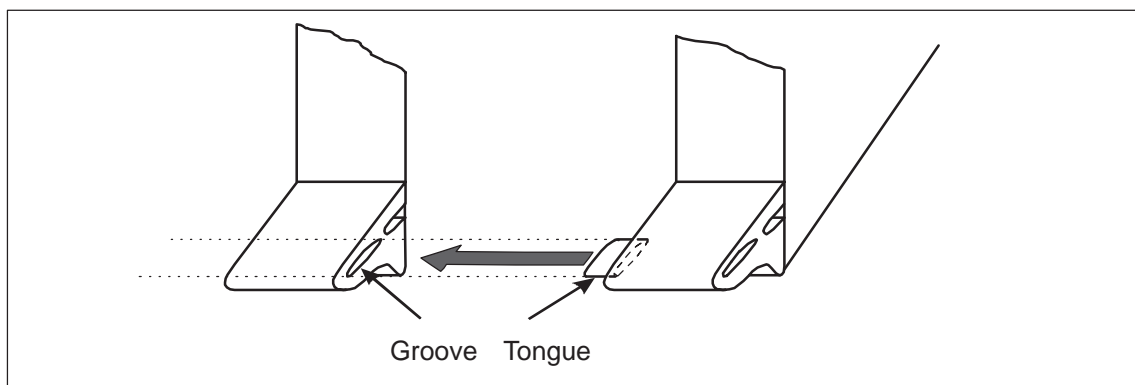

Figure 2-4 Connection of Modules Using Tongue and Groove
The assembly instructions for the various combinations include a step for connecting the modules by tongue and groove. Figure 2-4 shows you how the modules are connected in this manner.
2. Plug the mass storage unit onto the basic board, ensuring that the tongue on the eject lever of the mass storage module latches into the groove in the eject lever of the basic board (see Figure 2-4). The plugs of the two modules must be completely connected together.
3. Plug the AT slot module onto the basic board, ensuring that the tongue on the eject lever of the AT slot module latches into the groove in the eject lever of the mass storage module (see Figure 2-4). The plugs of the two modules must be completely connected together.
3. Connect the second AT slot module to the first AT slot module, making sure that the tongue at the eject lever of the second AT slot module latches into the groove in the eject lever of the first AT slot module (see Figure 2-4). The plugs of the two modules must be completely connected together.
3. Plug the AT slot module onto the mass storage module, ensuring that the tongue on the eject lever of the AT slot module latches into the groove in the eject lever of the mass storage module (see Figure 2-4). The plugs of the two modules must be completely connected together.
3. Plug the second AT slot module onto the first AT slot module, ensuring that the tongue on the eject lever of the second AT slot module latches into the groove in the eject lever of the first AT slot module (see Figure 2-4). The plugs of the two modules must be completely connected together.